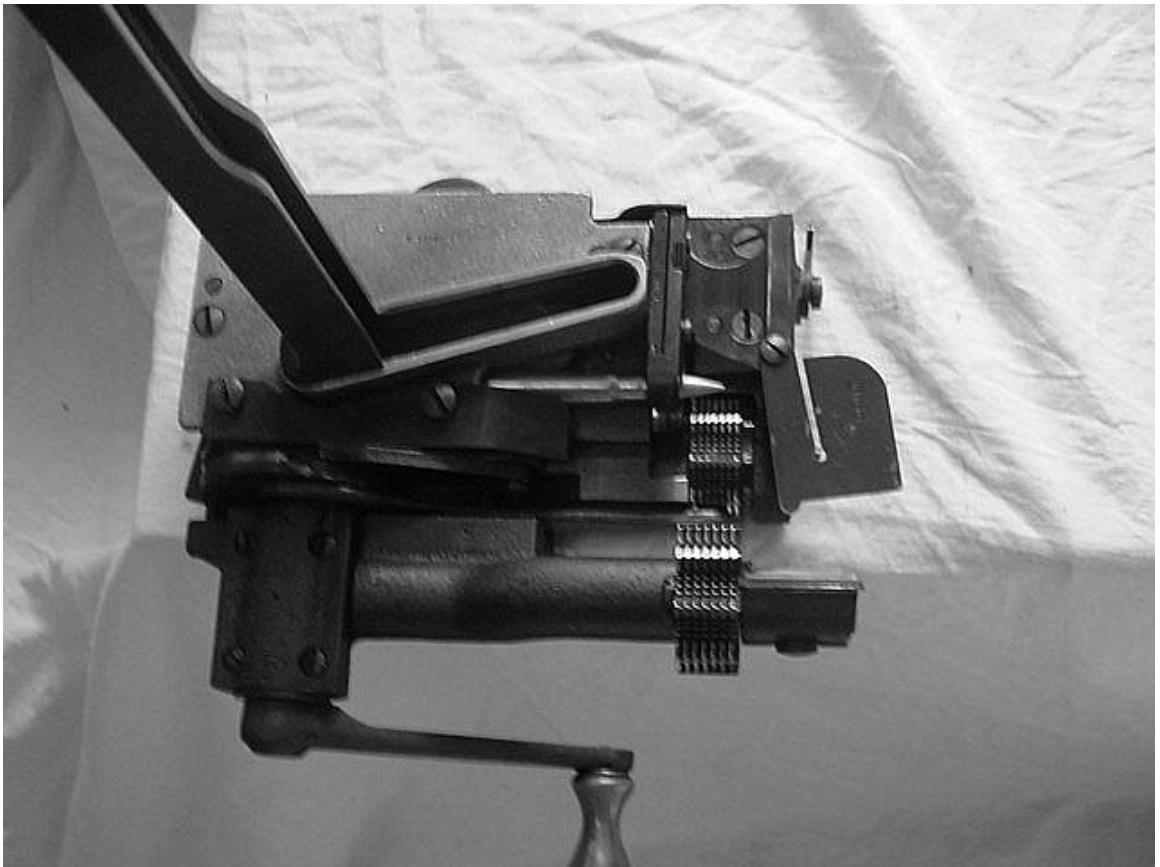

Figure 4
b. Loosen the two large screws on the belt guide until it is free to slide. Adjust the shuttle so the neck of the cartridge case rests lightly against the rear groove of the shuttle blade (fig. 4). Fasten the guide securely. Remove the round.